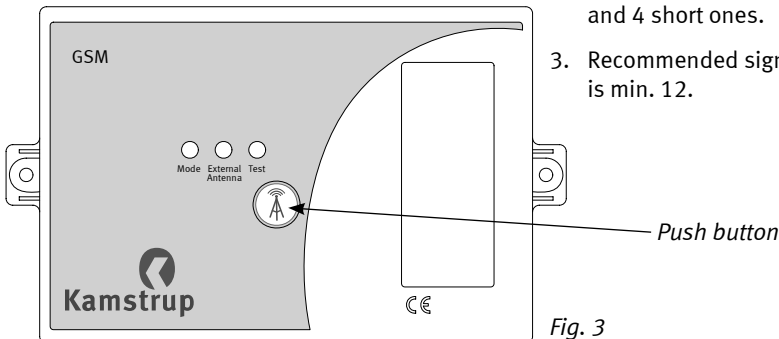

Fig. 3
1. Activate the push button for approx. 2 sec. (*see fig. 3*)
2. The TEST diode now lights constantly for approx. 10 sec. (*see fig. 3*), and the signal strength is indicated with flashes on the scale of 0 to 31: